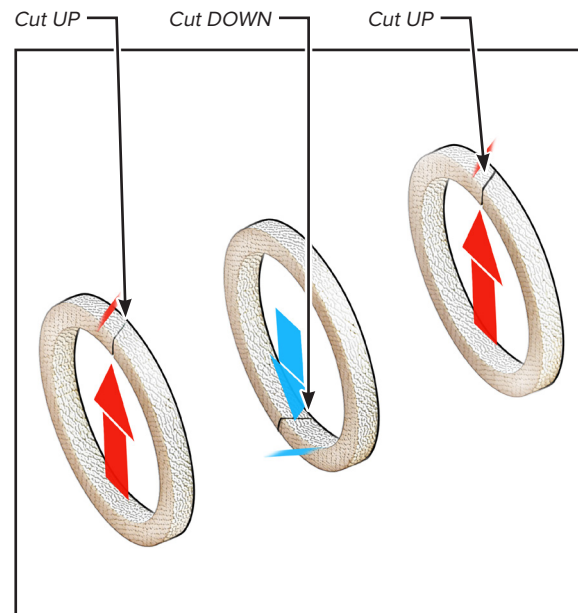

FIGURE 9
10. Wrap the first ring around the shaft and note the position of the joint (Figure 9).
13. Wrap the second ring around the shaft and offset the joint 180° from the position of the first ring (Figure 9). Push it into the packing gland using the packing retainer then slide packing retainer out of packing gland pocket.
14. Wrap the third ring around the shaft and offset the joint 180° from the second ring (Figure 9). Push it into the packing gland pocket using the packing retainer.